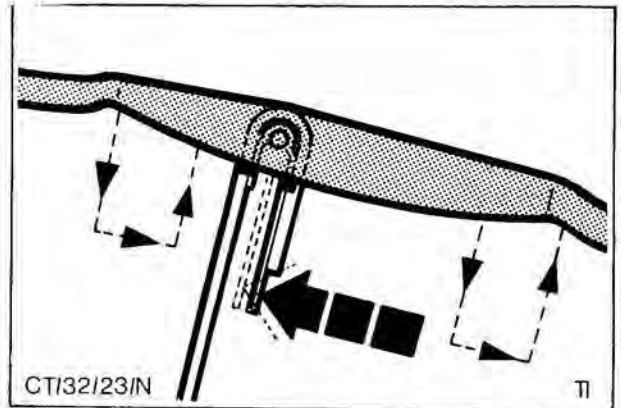

Fig. 35. Removing wiper blade
2. Depress spring clip and slide blade down wiper arm to clear arm hook, Fig. 35. Slide blade up arm and clear of arm hook.